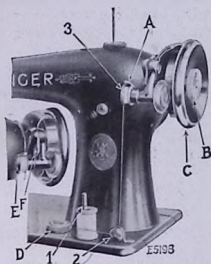

FIG. 17. WINDING THE BOBBIN
It is necessary to understand the stop motion (B, Fig. 17) by which the balance wheel (C, Fig. 17) can be released when required, thus permitting the winding of bobbins without running the stitching mechanism.
To release the balance wheel (C, Fig. 17) turn the stop motion screw (B, Fig. 17) over toward you. It is necessary to hold the balance wheel while loosening the stop motion screw.
Place the bobbin on the bobbin winder spindle (E, Fig. 17) and push it up closely against the shoulder having the small pin in the shoulder enter the hole in the side of the bobbin. Put the spool of thread on the spool pin (1, Fig. 17) located on the bed of the machine at the right. Draw the thread under and between the tension discs (2, Fig. 17) on the bed of the machine at the right of the spool pin, then pass the thread through the hole in the left side of the bobbin (3, Fig. 17) from the inside.
Press down on the bobbin and the bobbin winder latch (A, Fig. 17) will drop down and hold the bobbin
If the pressure of the bobbin winder pulley against the hub of the balance wheel is insufficient for winding the bobbin, loosen the adjusting screw (F, Fig. 17) and press down on the bobbin winder until the pulley is in contact with the hub of the balance wheel, then tighten the adjusting screw (F).
The length of the stitch is regulated by the feed regulating disc (D, Fig. 17, page 19) located on the bed of the machine, at the right. This disc is marked with arbitrary numbers, ranging from 6 to 30, which indicate the various lengths of stitches that the machine will make, No. 6 being the longest stitch and No. 30 the shortest stitch (The numerals do not denote the number of stitches to the inch). The length of stitch that the machine is ready to make is indicated by the number nearest the arrow marked on the cloth plate of the machine.